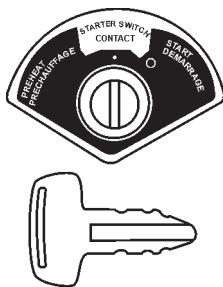

Figure 10. Ignition Switch and Key
5. Insert the **ignition key** into the ignition switch (Figure 10).